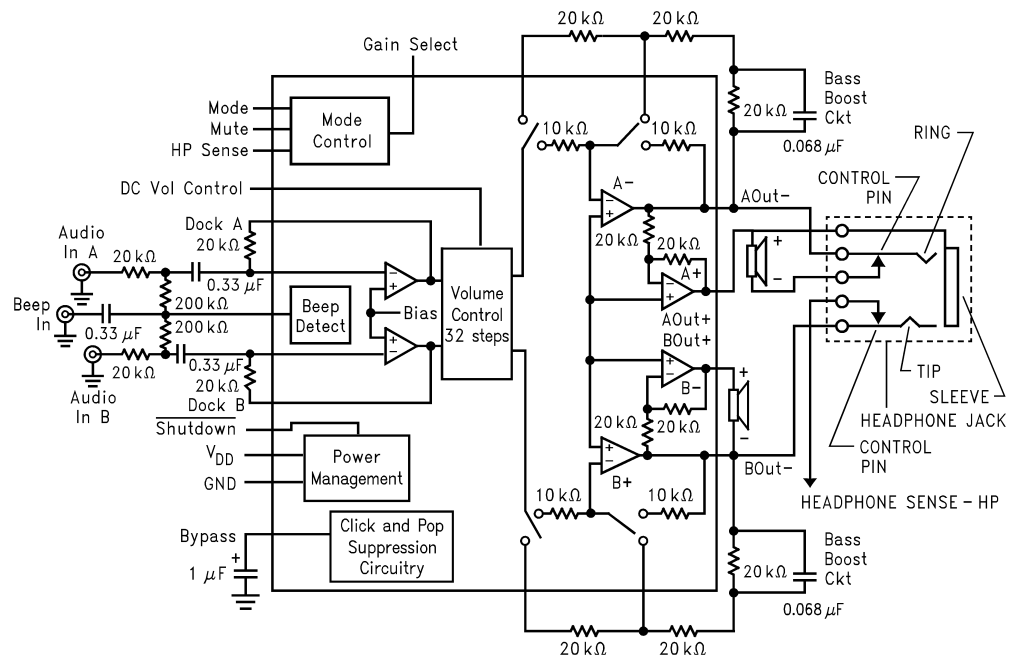

Figure 3. LM4841 Block Diagram
- (1) All voltages are measured with respect to the ground pins, unless otherwise specified. All specifications are tested using the typical application as shown in Figure 3.
- (2) *Absolute Maximum Ratings* indicate limits beyond which damage to the device may occur. *Operating Ratings* indicate conditions for which the device is functional, but do not ensure specific performance limits. *Electrical Characteristics* state DC and AC electrical specifications under particular test conditions which ensure specific performance limits. This assumes that the device is within the Operating Ratings. Specifications are not ensured for parameters where no limit is given, however, the typical value is a good indication of device performance.
- (3) Typicals are measured at $25^\circ C$ and represent the parametric norm.
- (4) Limits are specified to AOQL (Average Outgoing Quality Level). Data sheet min/max specification limits are specified by design, test, or statistical analysis.
- (3) Typicals are measured at 25°C and represent the parametric norm.
- (5) When driving 3Ω loads from a 5V supply, LM4841MH and LM4841LQ must be mounted to the circuit board and forced-air cooled.
- (6) When driving 4Ω loads from a 5V supply, the LM4841MH and LM4841LQ must be mounted to the circuit board.